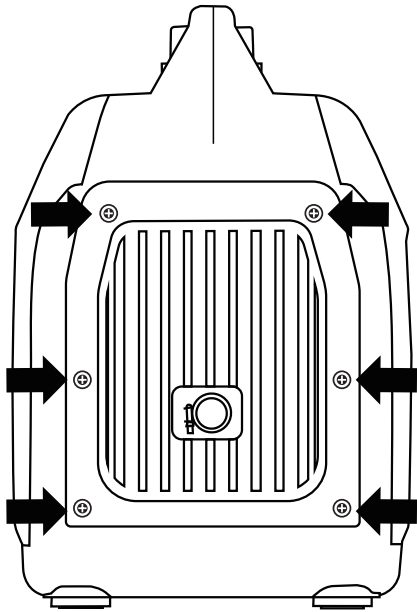

Figure 20: Remove screws holding muffler cover
3. Remove the screws holding the muffler cover in place (see Figure 20).